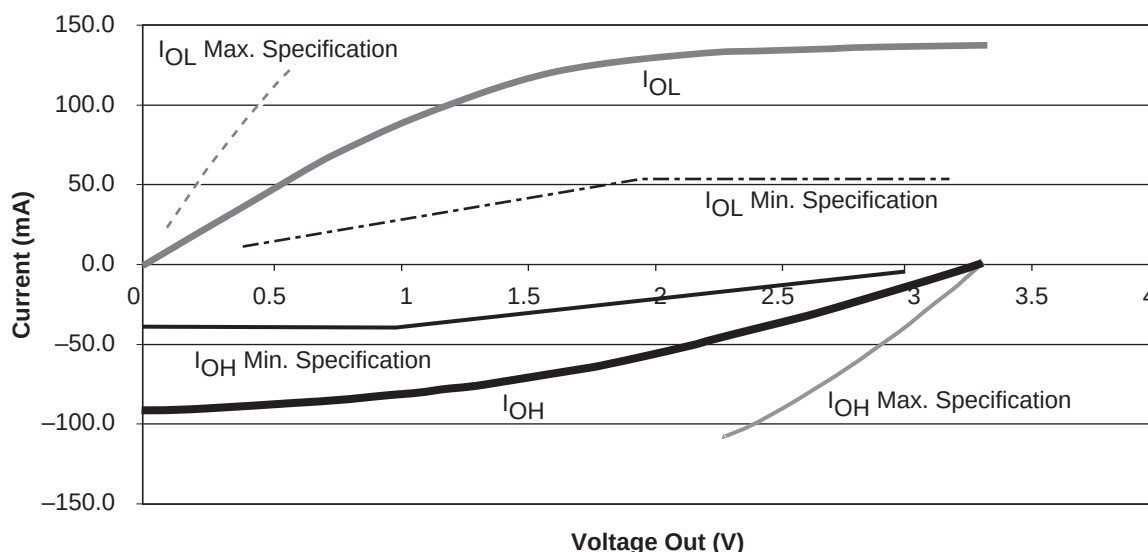

Figure 2-9 • 3.3 V PCI V/I Curve for the RTSX-SU Family
1. Refer to the V/I curves in Figure 2-9 on page 2-26. Switching current characteristics for REQ# and GNT# are permitted to be one half of that specified here; i.e., half-size output drivers may be used on these signals. This specification does not apply to CLK and RST#, which are system outputs. The "Switching Current High" specification is not relevant to SERR#, INTA#, INTB#, INTC#, and INTD#, which are open drain outputs.
2. Maximum current requirements must be met as drivers pull beyond the last step voltage. Equations defining these maximums (C and D) are provided with the respective curves in Figure 2-9 on page 2-26. The equation defined maximum should be met by the design. In order to facilitate component testing, a maximum current test point is defined for each side of the output driver.